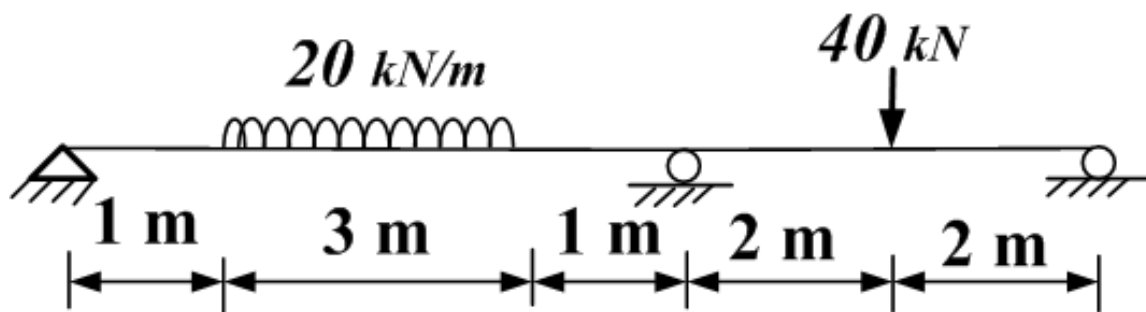

Fig. 1
5. Find the elastic, redistributed, and design bending moment diagrams of a continuous beam in **Fig. 1**. Assume full redistribution of 30% as per IS 456. [8 Marks]